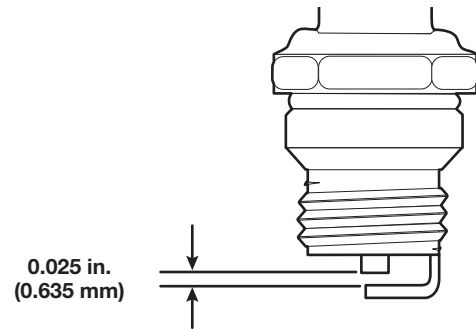

Fig. 37
4. Use a feeler gauge to set the air gap at **0.025 in. (0.635 mm)** (Fig. 37).